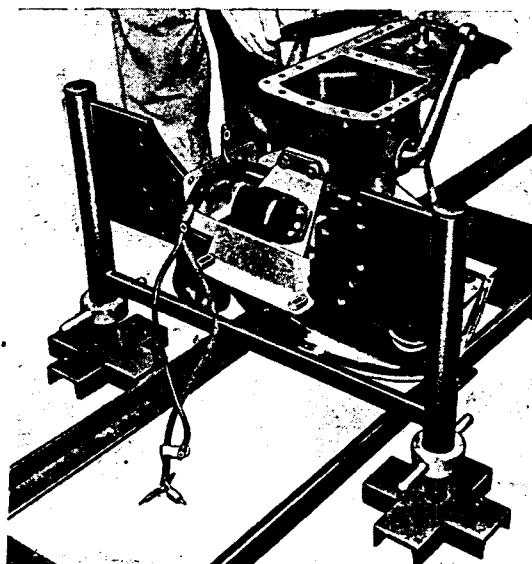

FIG. 8.
**NOTE :** If steering wheel is removed, the assembly can be conveniently placed, base uppermost, on tractor chassis stand as shown in Fig. 8, for removal of base plate prior to draining oil from lower housing.